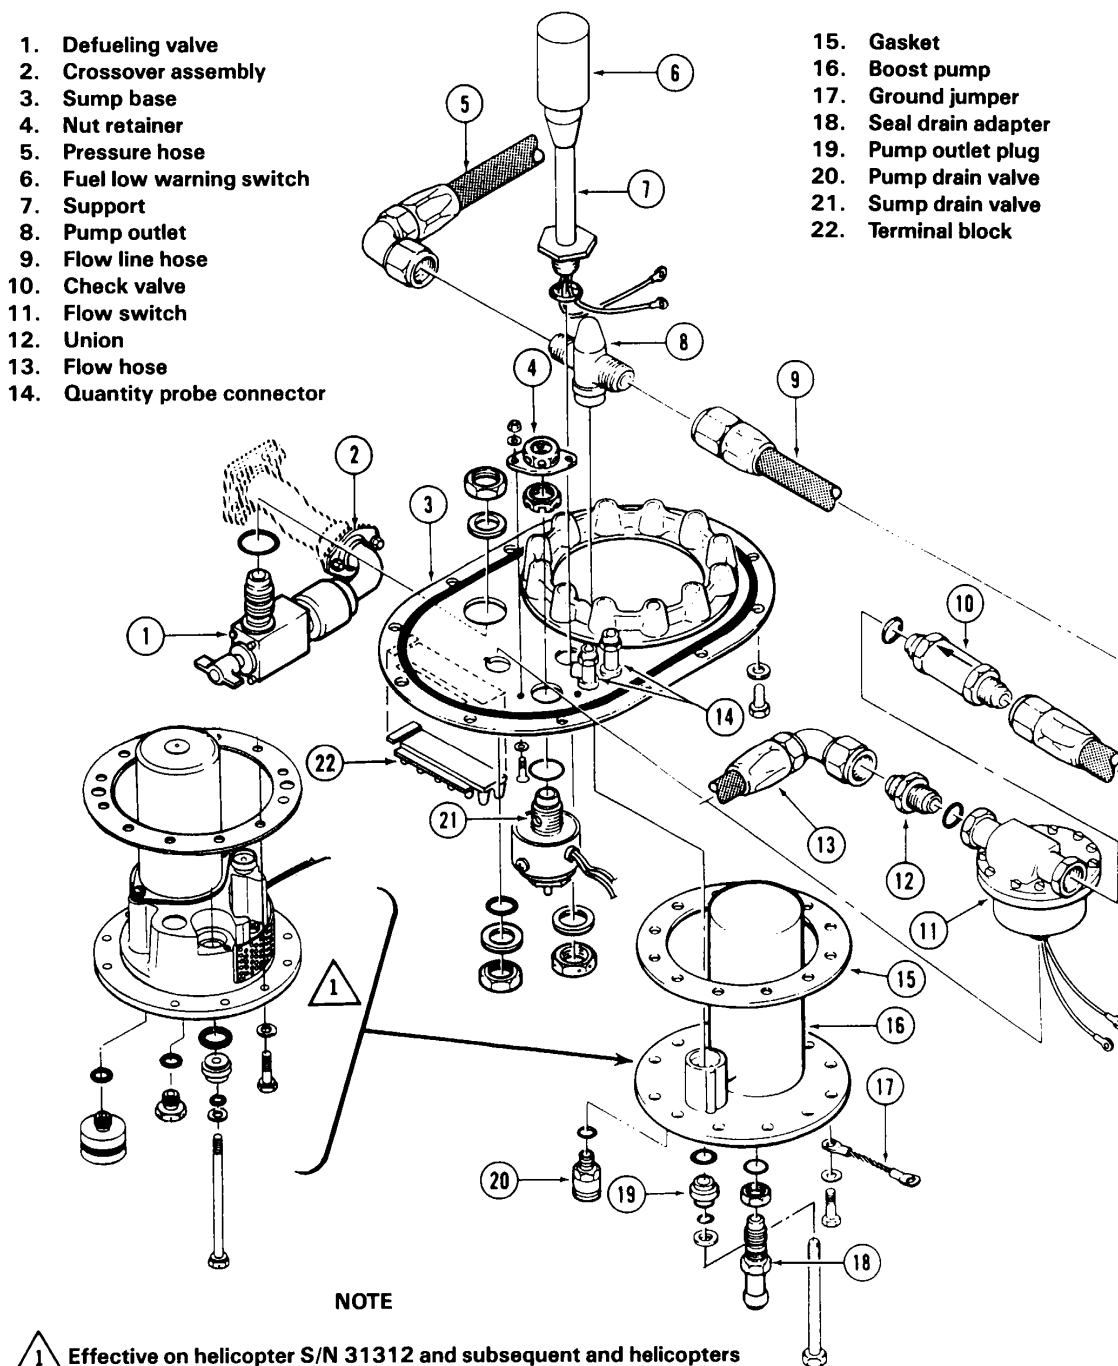

Figure 28-7. Fuel cell sump (left side typical)
28.12.3.4 Connect hose (13, Figure 28-7) to union (12) in outlet of flow switch (11).
28.13.1.2 Disconnect flow switch (11, Figure 28-7) electrical leads from terminal block (22).
28.13.2.1 If installing a replacement flow switch (11, Figure 28-7) remove shipping plugs and
28.14.1.2 Disconnect fuel line hose (9, Figure 28-7) from pump outlet (8).
*The screen in S2490 pump outlet (8, Figure 28-7) is to be removed prior to installing fitting on pump.*
28.14.2.1 If installing a replacement boost pump (16), remove shipping plugs and install adapting parts as follows:
28.18.1.2 Disconnect electrical leads of fuel low warning switch (6, Figure 28-7) from terminal block (22).
28.18.2.1 Place new packing on fuel low warning switch (6, Figure 28-7). Thread wires through support (7). Start and tighten switch.